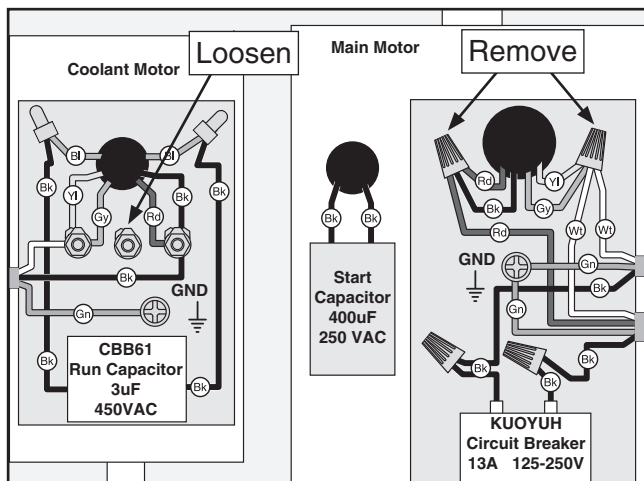

Figure 8. Location of components to be removed and loosened.
3. Open the main and coolant motor junction boxes, remove the wire nuts on the main motor, and loosen the terminal nut on the coolant motor, as indicated in **Figure 8**.